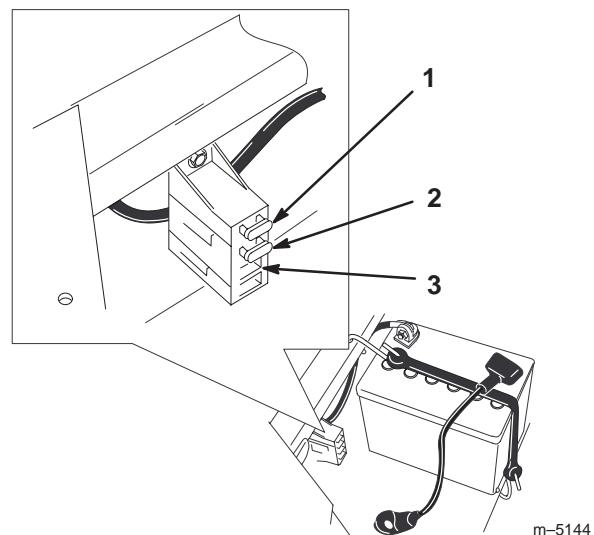

Figure 28
- Raise the seat to gain access to the fuse holder (Fig. 28).
- To replace a fuse, pull out on the fuse to remove it (Fig. 28).